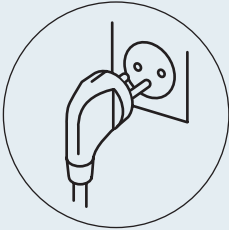

*Figure 6.8 – Fixation of the device*
11. Install the fixing screws inside the device (Fig. 6.8). Pull the device against the wall with them, without using excessive force when tightening (material of the case shall not be pressed through)